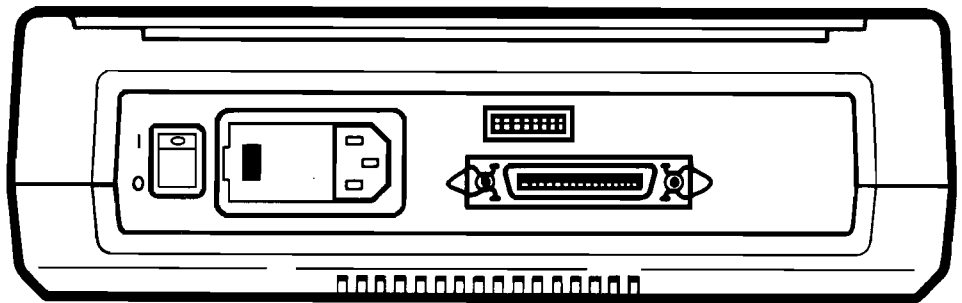
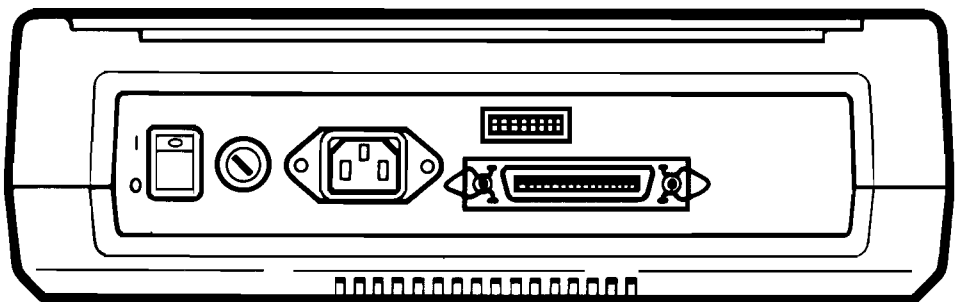

Figure 11-4. HP 2225C (Int) Version Backpanel
Figure 11-5. HP 2225C (US) Version Backpanel
The 2225C (US) and 2225C (Int) version printers are distinguishable by the backpanel. The international version contains a fuse box with selectable voltage settings of 100, 120, 220, or 240 volts (see Figure 11-4). The U.S. version does not have a selectable input voltage. The backpanel contains a separate power cord plug and fuseholder and is designed to operate at 120 VAC 50/60Hz (see Figure 11-5).